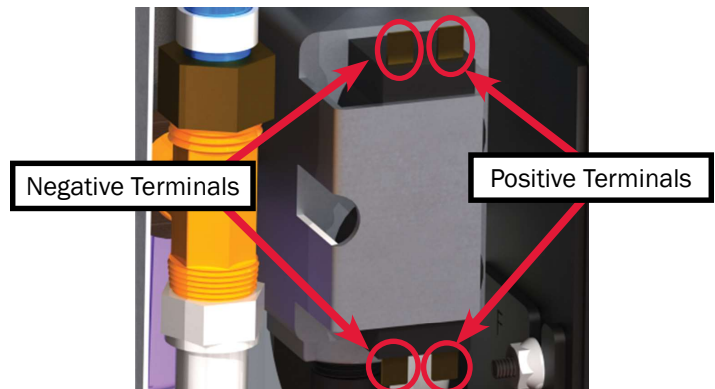

Figure 62
5. If the Fenwal card is sending voltage to the dual stage gas valve, check for voltage at the dual stage propane valve as denoted by Figure 62.
13. Reconnect wires # 40 and #41 to the dual stage gas valve. Wire #41 will terminate at the top positive connection, and wire #40 will terminate at the bottom positive connection. Connect the ground wires in a similar fashion. Reference Figure 62.